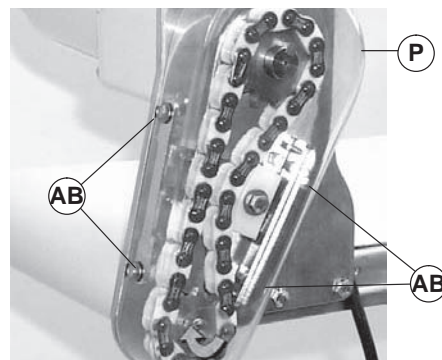

Figure 23
1. Loosen four screws (Figure 23, item AB) and remove cover (P).
Do not over-tighten screws (Figure 23, item AB).
- Install cover (Figure 23, item P) and tighten four screws (AB) to 35 in-lb (4 Nm).